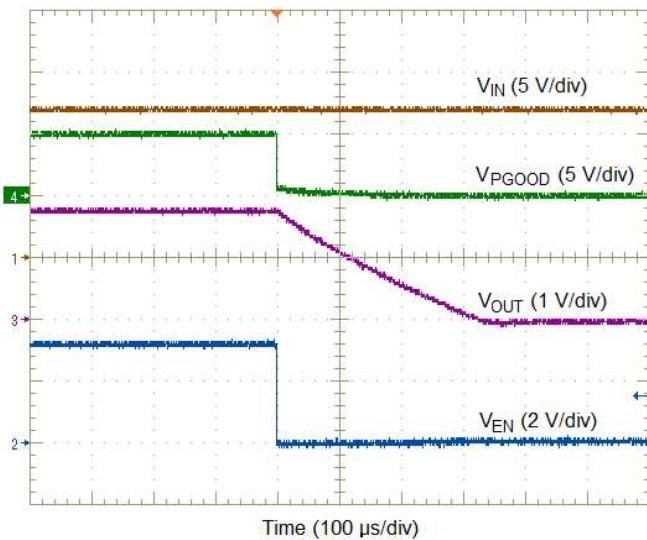
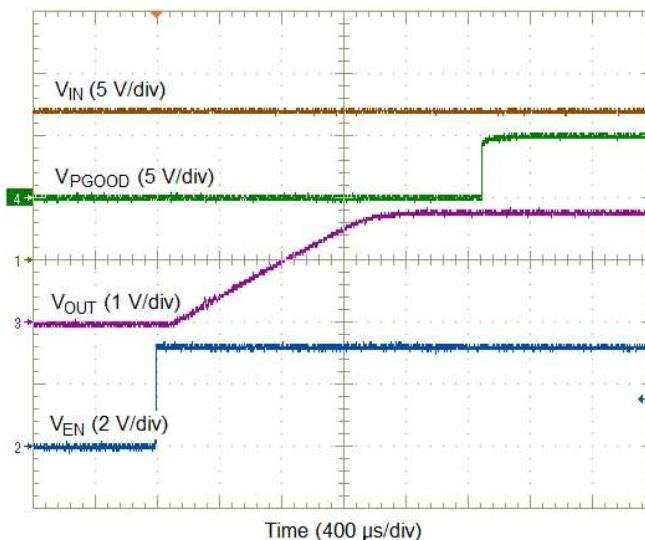

图 12. Enable Turnoff
图 13. Enable Turnon
If an application requires controlling the EN pin, either drive it directly with a logic input or use an open drain/collector device to interface with the pin. Applying a low voltage to the enable control (EN) pin disables the output of the supply, shown in 图 12. When the EN pin voltage exceeds the threshold voltage, the supply executes a soft-start power-up sequence, as shown in 图 13.